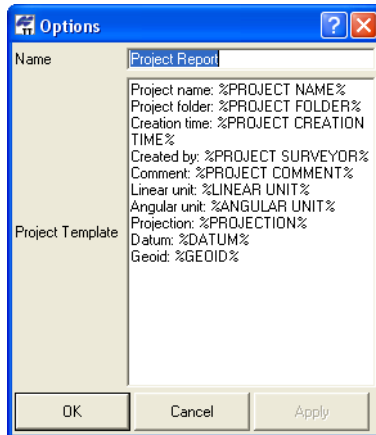

Figure 7-21. Item Options – Project Report
- Project Report – edit the name, type template items in the same manner as displayed on screen or delete template items, then click **OK** (Figure 7-21).